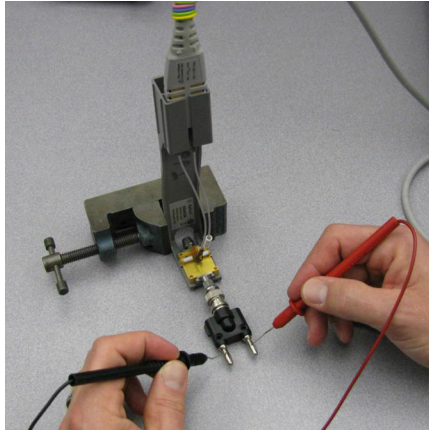

Figure 99 Measuring the Differential Input Resistance of Solder-In Probe Head
Figure 99 shows the correct setup for measuring the differential input resistance for the solder-in probe head.
- 1 Connect the BNC to SMA adapter and BNC to Banana Plug adapters as shown in **Figure 99** on page 136.
- 4 Connect the ZIF or solder-in probe head to the probe amp and insert it into the PV fixture as shown **Figure 99**.
- 6 As shown in **Figure 99**, measure the DC input resistance between the banana plugs. Since one tip wire is connected to the signal line and the other tip is connected to the PV fixture ground, this is a measurement of the differential input resistance. It should be $100\text{ k}\Omega \pm 2\%$ (98 to 102 $\text{k}\Omega$).